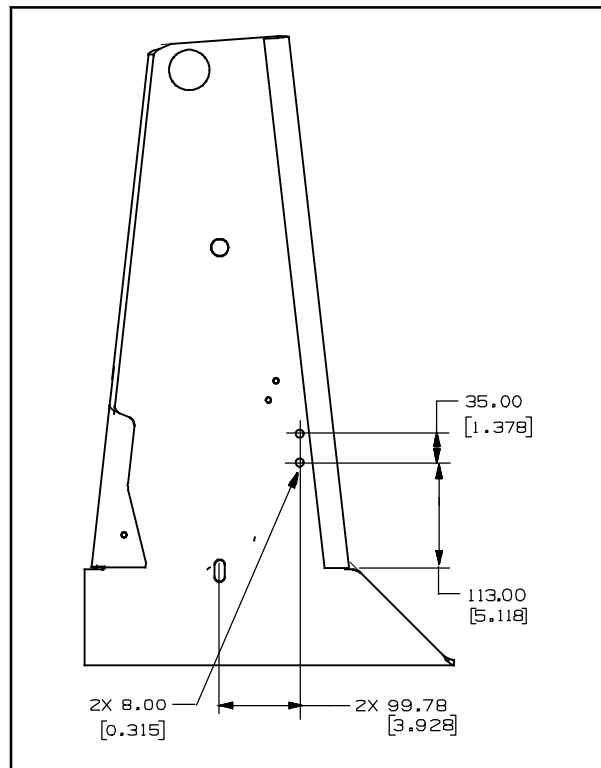

FIG. 25
32. Drill two 8 mm (0.315 in) holes into the left lift tower of the machine. (Fig. 25)